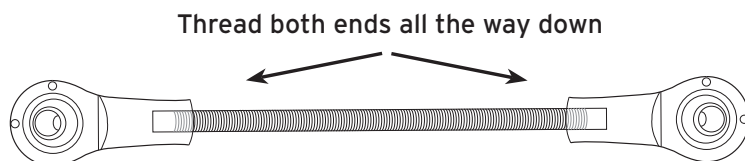

Fig. 9
1. Locate the linkage and ensure the rod is threaded all the way on (Fig. 9).